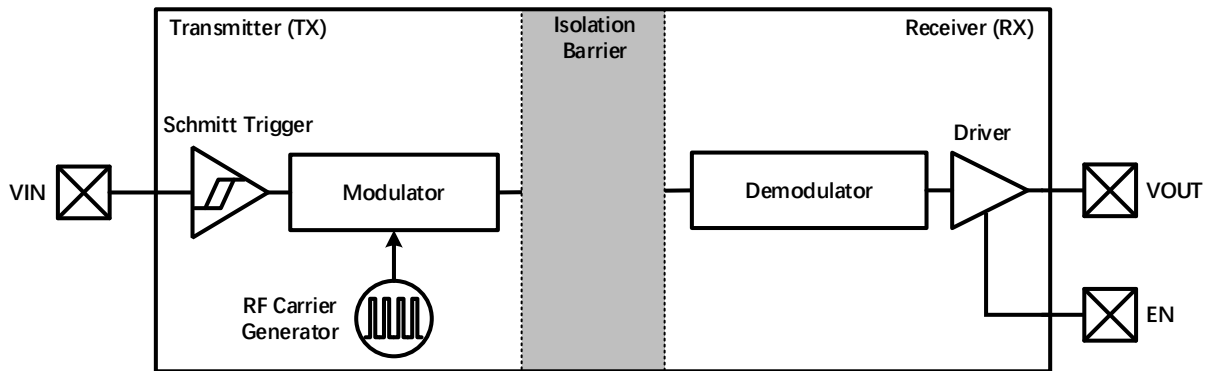
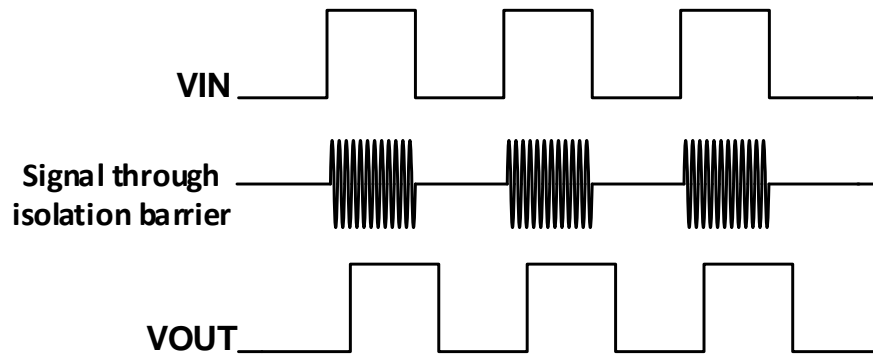

Figure 9-1 Functional Block Diagram of a Single Channel
Figure 9-2 Conceptual Operation Waveforms of a Single Channel
The CA-IS374x family of devices use a simple ON-OFF keying (OOK) modulation scheme to transmit signal across the SiO2 isolation capacitors that provide a robust insulation between two different voltage domain and act as a high frequency signal path between the input and the output. The transmitter (TX) modulates the input signal onto the carrier frequency, that is, TX delivers high frequency signal across the isolation barrier in one input state and delivers no signal across the barrier in the other input state. Then the receiver rebuilds the input signal according to the detected in-band energy. If the ENx pin is low then the output goes to high impedance state and will be pulled up to VDDO (CA-IS374xH) or pull down to the corresponding GND (CA-IS374xL). This simple architecture offers a robust isolated data path and requires no special considerations or initialization at start-up. The capacitor-based signal path is fully differential to maximize noise immunity, which is also known as common-mode transient immunity. Advanced circuitry techniques are applied for better EMI introduced by the carrier signal and IO switching. The capacitively-coupled architecture provides much higher electromagnetic immunity compared to the inductively-coupled one. And OOK modulation scheme eliminates the missing-pulse error that occurs in the pulse modulation method. A simplified functional block diagram and conceptual operation waveforms of a single channel is shown in Figure 9-1 and Figure 9-2.